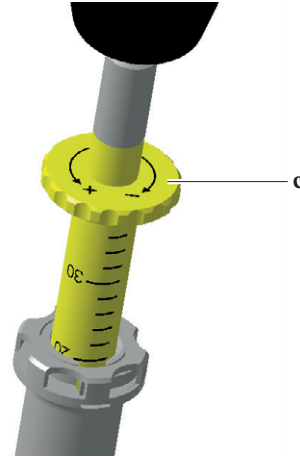

Fig. 7
- ▶ Set the desired drilling depth by rotating the inner sleeve c of the drill guide: turn it counter-clockwise to increase the depth and clock-wise to decrease the depth (as indicated by the arrow on the inner sleeve c), see Fig. 7.